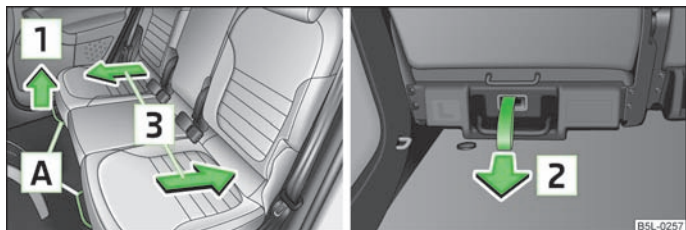

Fig. 48 Releasing at the front/rear
- › Pull the lever **A** » Fig. 48 up in the direction of arrow **1** or on the release loop in direction of arrow **2** and move the seat into the desired position **3**.